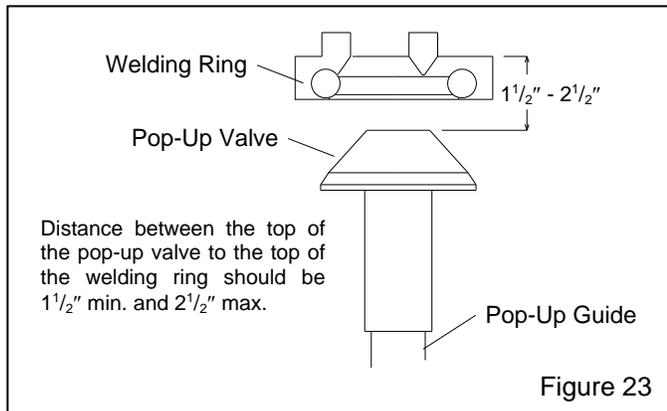

Figure 23
**6.7.5** Refer to Figure 23 to check the pop-up height. If the pop-up sits too low, misalignment could occur when the pop-up comes up against the seal. If the pop-up sits too high, it will take longer for abrasive to flow through the opening when filling. Adjust the height by replacing the guide with one that is longer or shorter.